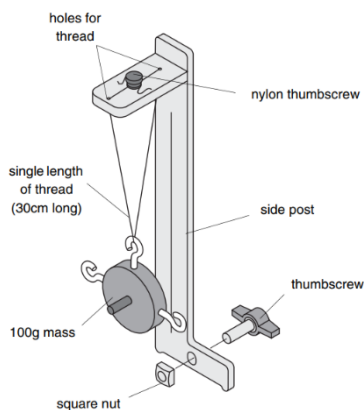

Fig. 3. Side Post Assembly
- (v) Assemble the Side Post (See Fig. 3)